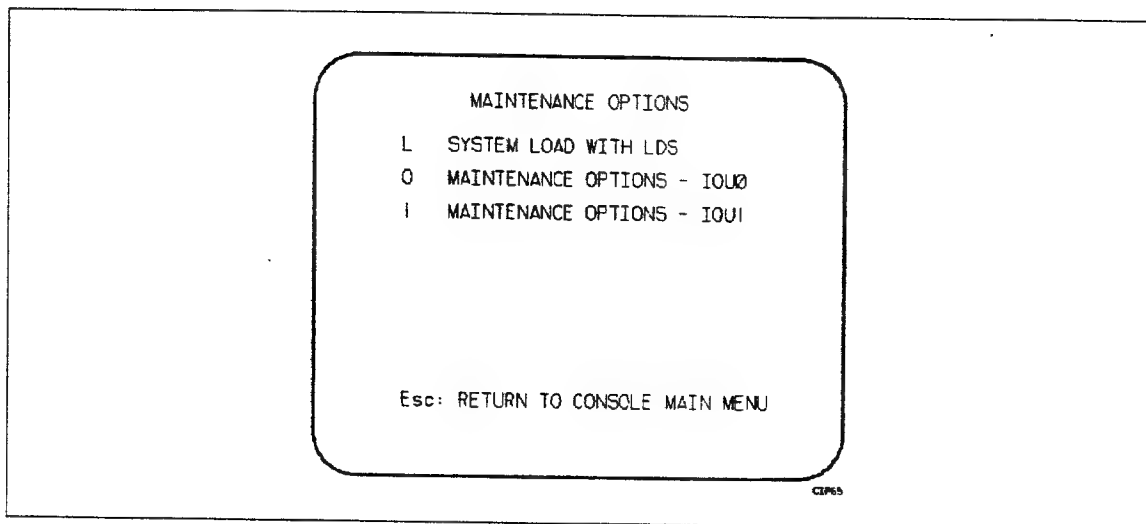

Figure 3-5. Maintenance Options Menu (Dual IOU Systems)
- ___ a. From the CONSOLE MAIN MENU, type **M** to bring up the MAINTENANCE OPTIONS menu shown in figure 3-5.
If you wish to execute a long deadstart in both IOUs via a single display option, select L, SYSTEM LOAD WITH LDS, from the MAINTENANCE OPTIONS menu (figure 3-5).